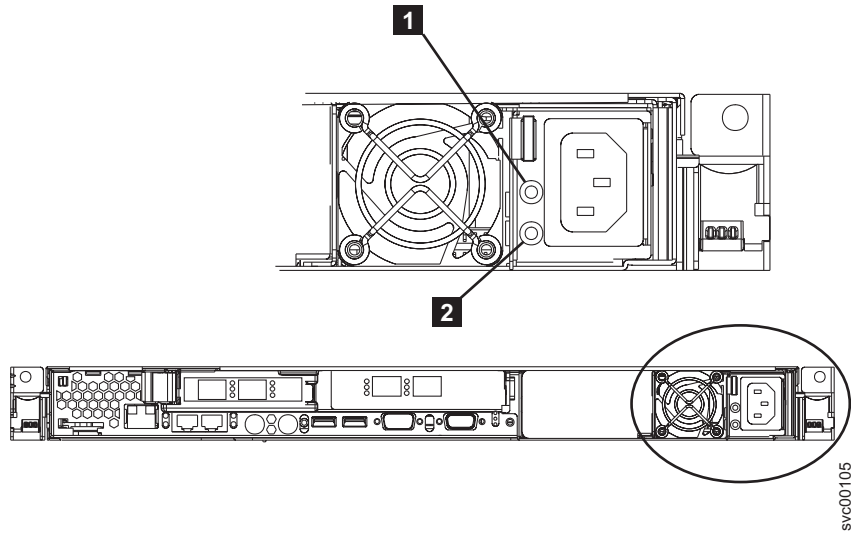

Figure 61. AC and DC power LEDs
5. Make sure that the power-supply fan starts and the AC power LED **1** and DC power LED **2** on the power supply are lit, indicating that the power supply is operating correctly. See Figure 61 on page 231.